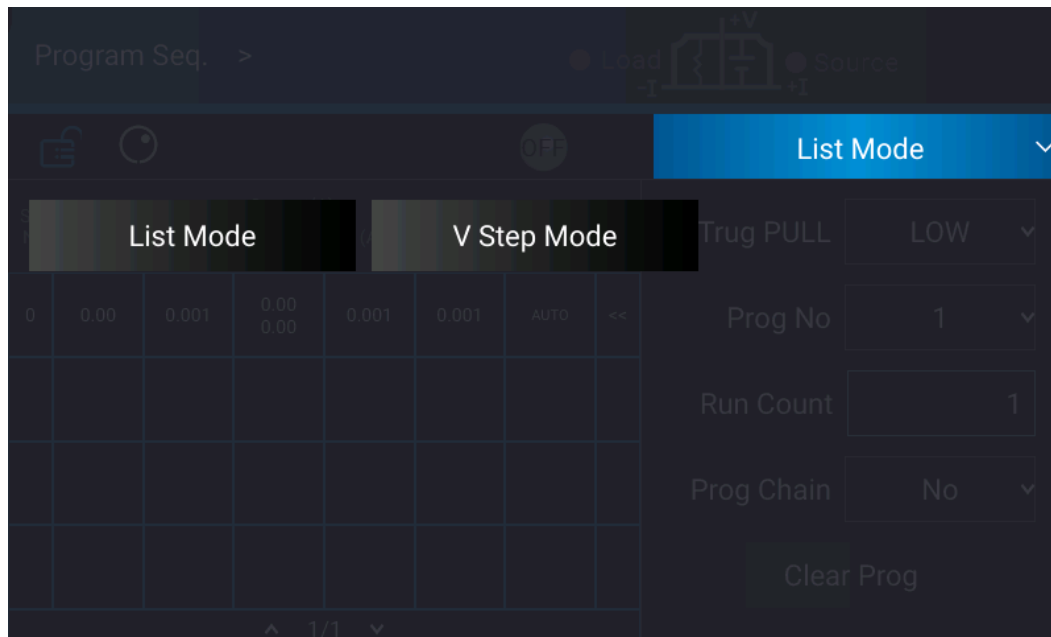

Figure 4-2
2. Tap “**List Mode**” to open the options as Figure 4-2 shows.